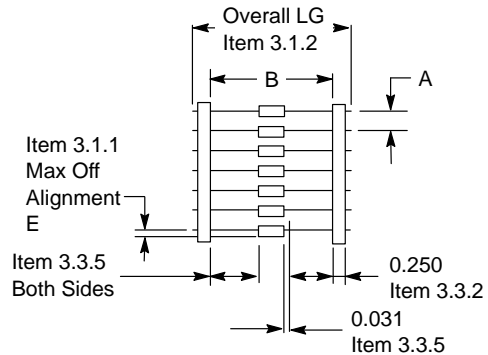

Figure 57. Component Spacing
3.1.1 – Component leads shall not be bent beyond dimension E from their normal position. See Figure 57.
3.1.2 – The "C" dimension shall be governed by the overall length of the reel packaged component. The distance between flanges shall be 0.059 inch to 0.315 inch greater than the overall component length. See Figures 57 and 58.
3.3.2 – Component's leads shall be positioned perpendicularly between pairs of 0.250 inch tape. See Figure 57.